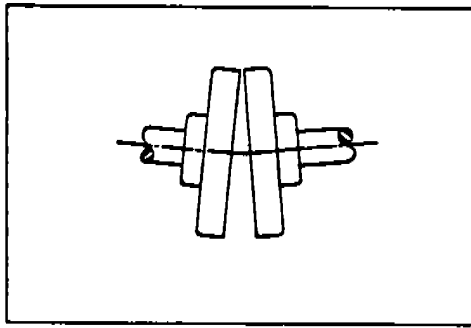
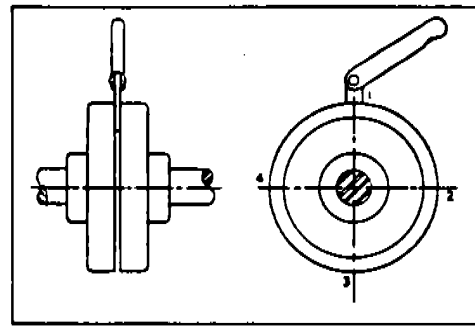

Figure 1
Figure 3
**COUPLING ADJUSTMENT-** When shipped from the factory the fluid coupling will be filled to the normal level as indicated by having the figure 1 cast on the coupling on the vertical centerline. The filler plug then will be at an angle of 36° to give coupling operation suitable for most applications. No further adjustment will be necessary unless special operating conditions exist.
1. Angular Misalignment (Figure 1)
Angular misalignment is illustrated in Figure 1 and should be corrected before attempting to correct for parallel misalignment. To correct proceed as shown in Figure 3, using a leaf gauge or taper gauge. By taking readings at points 1, 2, 3 and 4, it is easy to determine the amount of correction necessary. It is important to check that both shafts are in the closest axial location before taking readings. There will be no angular misalignment if the width of the gap is the same at all points.